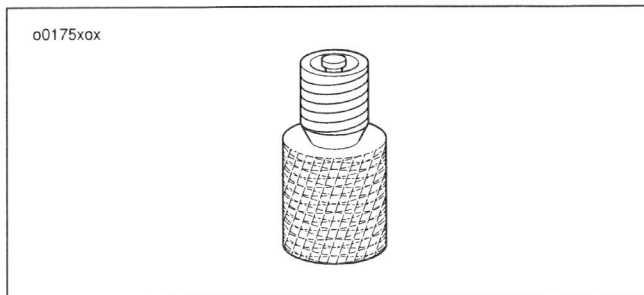

Figure 25. Coaxial Adapter
8. See Figure 25. Remove the chassis mounted coaxial adapter from the antenna bracket. Place in Tour-Pak or install back onto antenna cable from Tour-Pak.
9. Install radio antenna on the chassis mount by turning the antenna clockwise (CW)